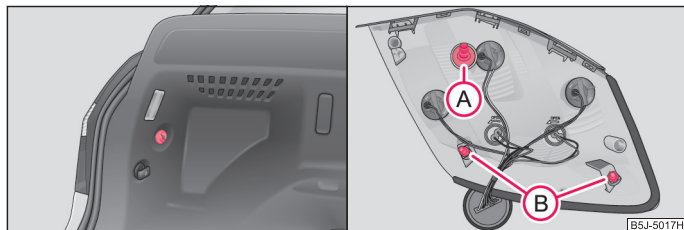

Fig. 175 Remove the rear light unit / install the rear light unit
- Hold tight the rear light unit with one hand and unscrew the plastic nut with the other hand ⇒ fig. 175 - left.
- When re-installing, first insert the rear light unit with the screw (A) into the opening of the body ⇒ fig. 175.
- Carefully press the rear light unit into the body in such a way that the pins (B) engage into the supports of the body.
- Hold the rear light unit tight with one hand, screw on the nut with the other hand and tighten it ⇒ fig. 175.